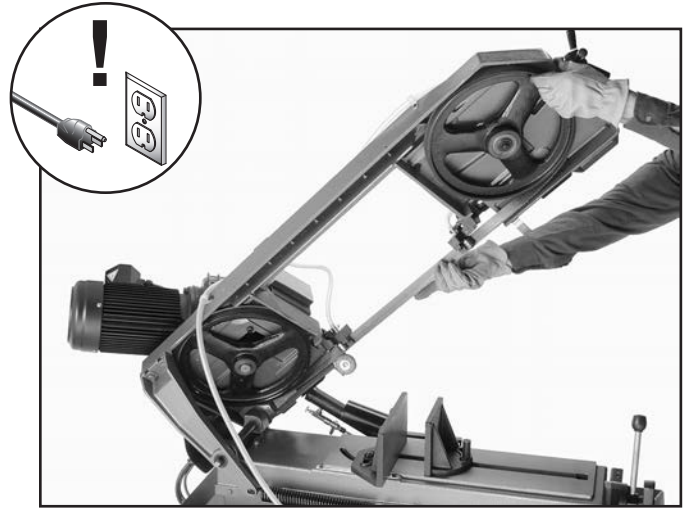

Figure 29. Installing blade.
5. Install the new blade through both blade guide bearings, as shown in **Figure 29**, and around the bottom wheel.